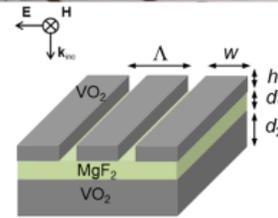

Fig. 1: 1D Thermally tunable metamaterial structure
- The structure as shown in Fig. 1, consists of a one-dimensional VO2 periodic grating on a stack of magnesium fluoride ( MgF2 ) and VO2 films.